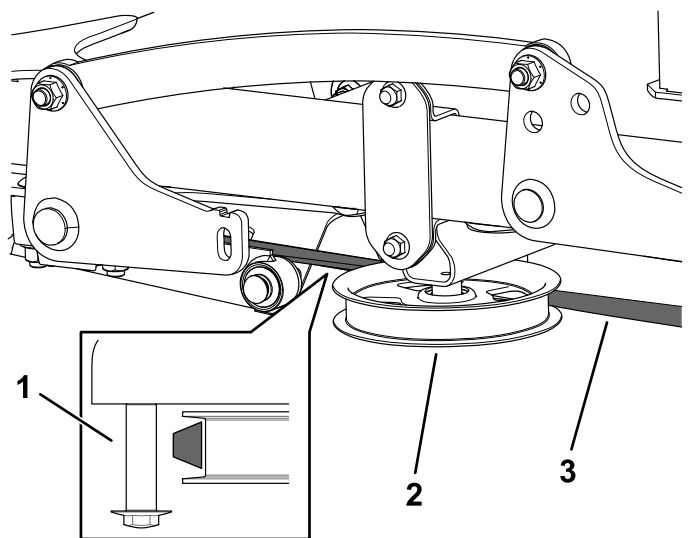

Figure 7
- Nut (2)
- Route the belt to the idler pulley (Figure 7).
Important: Ensure that the wide side of the belt contacts the pulley as shown in Figure 7. Use the shoulder bolt as a guide for the belt.